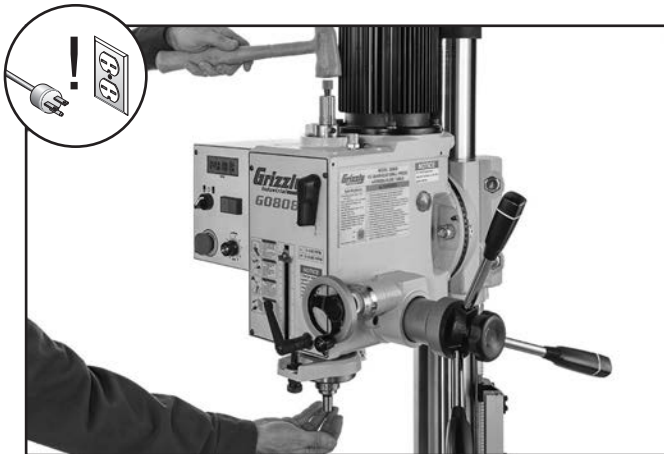

Figure 45. Tapping drawbar to unseat tool taper.
5. Tap top of drawbar with brass-head or dead-blow hammer to unseat taper (see **Figure 45**).